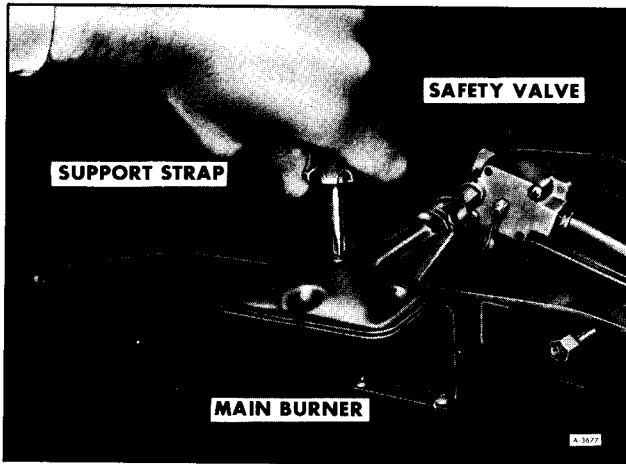

Figure 20—Removing Main Burner Retaining Screws
6. Remove main burner retaining screw (figure 20). Then separate the main burner from safety valve. Also remove main burner support strap.